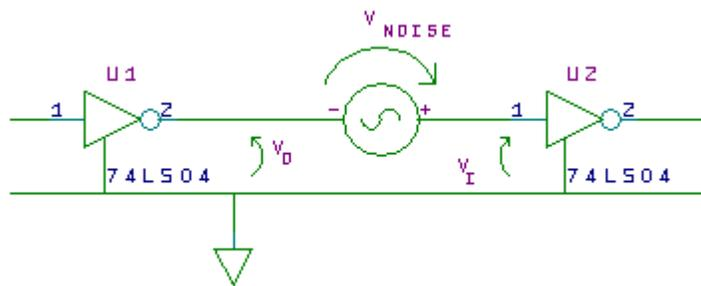

Figure 2-ii: Model of how noise adds to a signal between gates.
**Noise Margins:** All logic systems have significant amounts of noise - unwanted and unintended voltages added to the real signals of the system. The noise is usually induced by electromagnetic coupling between the different signal wires. While it can be minimized, it cannot be eliminated. Much of the appeal of digital systems comes from their relative immunity to such noise. Figure 2-ii shows a circuit model for what is going on as a noise voltage adds to the output of a gate, U1, before the signal reaches the input of gate U2. With well-designed gates, the voltage at the input of U2 which is necessary for U2 to recognize a logic LOW,  $V_{IL}$ , is more than the output of U1 in its LOW state,  $V_{OL}$ . For U2 to function properly we must have
**Figure 2-iii: Scheme for measuring the supply current of a gate/integrated circuit.** The size of the sense resistor has to be chosen so that the voltage drop across the resistor is less than 0.2 volts but great enough to be measured. The multimeter has 10 megohms input resistance so combined with a 10 megohm sense resistor the current is really passing through 5 megohms equivalent.
**Power:** The power used within a chip is the product of the current *through* the chip from its  $V_{DD}$  or  $V_{CC}$  terminal to its GND terminal times the voltage *across* those terminals, that is:  $\text{Power} = (\text{current through}) \times (\text{voltage across})$ . This is the rate at which the power supply is doing work (mostly heating the chip) on the circuit. A flow of current can only be measured **by routing it through something**, typically the ammeter part of a DMM. However, we have found that invariably students damage meters they try to use in this way. Instead for this lab you measure current by putting a resistor “in series” with the supply and the  $V_{CC}$  or  $V_{DD}$  terminal. Be sure to have a bypass capacitor across the integrated circuit itself as shown in Fig. 2-iii. The CMOS chips require a very large resistor, 10 Megohms. However, if you connect a 10 Megohm resistor in series with the  $V_{DD}$  terminal, as shown in Figure 2-iii, and use the DVM on a *voltage* range to measure the potential drop across the resistor, then Ohm's law can be used to find the current. The resistance of the meter itself when used as a voltmeter is 10 Megohms. Since this is not negligible compared to the 10 Megohm sensing resistor, one has to use the effective resistance of the combination of the two in parallel, namely 5 Megohm. The corresponding voltage across the chip is the power supply voltage minus the drop across the series-measuring resistor. **WARNING:** Do not try to measure the voltage across the inverter and infer the current through it by Kirchoff's voltage law. The multimeter current is not negligible compared to the CMOS current.